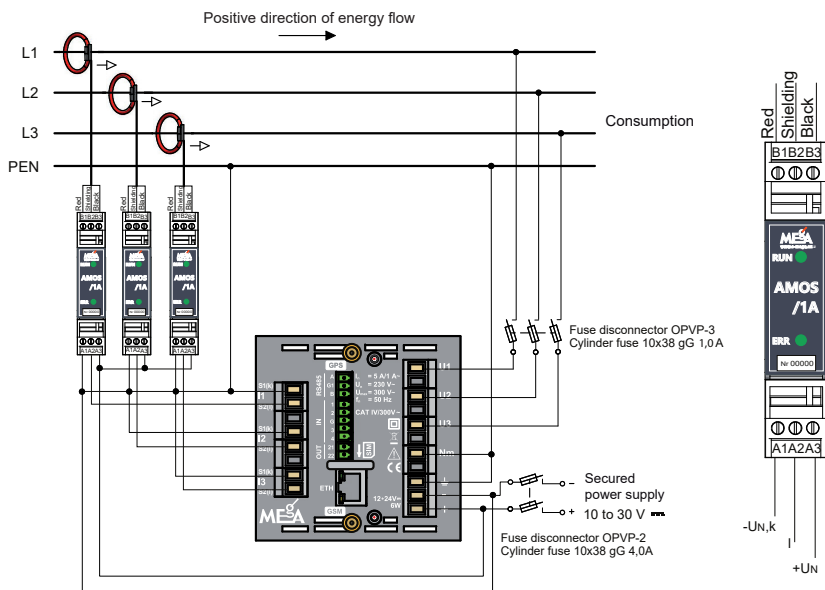

Fig. 22: Connection of MEG45PAN in a LV TN-S type network, current measurement by AMOSm sensors, category CAT IV 300 V
The design of **AMOSm** flexible sensors with low-voltage direct connection to specially modified current inputs of the MEg45PAN monitor is shown in Figure 22. The interface between the sensors and the monitor is non-standard, but allows for increased accuracy of the entire measurement chain.
- e) Before installing three **AMOSm** sensor loops on phase conductors with measured current according to Figure 22, check the marking **I1**, **I2** and **I3** on the individual sensors and the conformity of the serial numbers of all three AMOSm sensors with the serial number of the MEg45PAN monitor with which they were calibrated by the manufacturer. Then, check the AMOSm marking near the current on the rating plate of the installed MEg45PAN monitor.